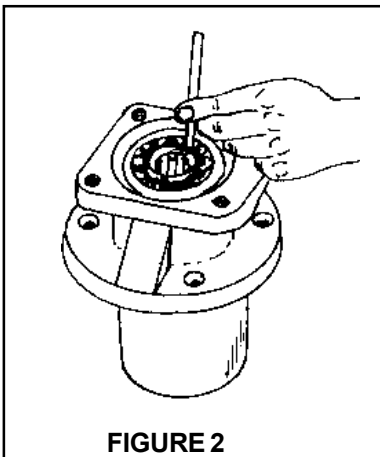

FIGURE 2
Using a chisel with a 3/16" wide cutting edge, place it parallel with and into one (1) of the staking slots in the threaded section of the shaft. Then drive it downward until the bent part of the staking flange on adjusting nut is bent outward and is free of the slot and threads of the shaft. This procedure is done in two (2) places on the shaft (Figure 2).